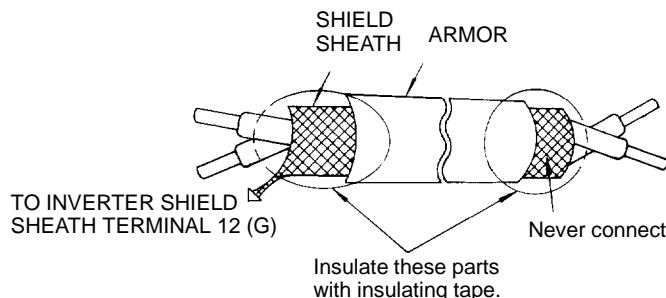

Fig. 3 Shielded Lead Termination
(2) Control circuit leads 9 10 18 19 20 (contact output) must be separated from leads 1 to 8, 21 22 25 26 27 and 11 to 17.
Use the twisted shielded or twisted-pair shielded lead for the control circuit line and connect the shield sheath to the inverter terminal 12 (G). See Fig. 3.